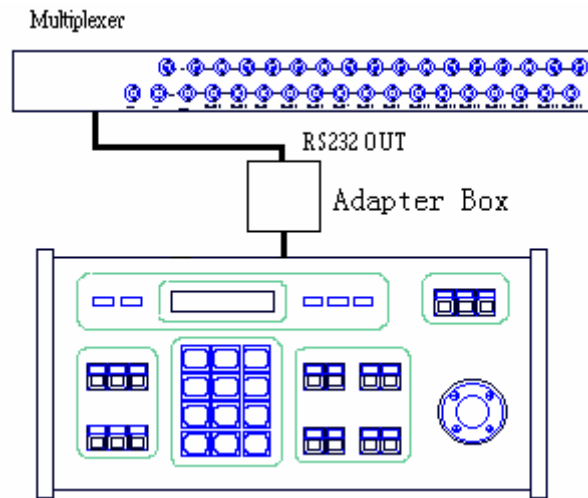

Figure 8
5. System Connection Drawing between the keyboard and the dome camera and the multiplexer (Figure 8)